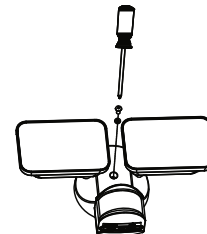

Fig. 5
6. Position the light fixture over the crossbar. Mount it to the crossbar using the nut (part 4) and screw (part 2). Make sure not to overtighten the nut. Make sure the motion sensor head is not upside down. Rotate the motion sensor so the sensor faces the detection area. (See Fig. 5)